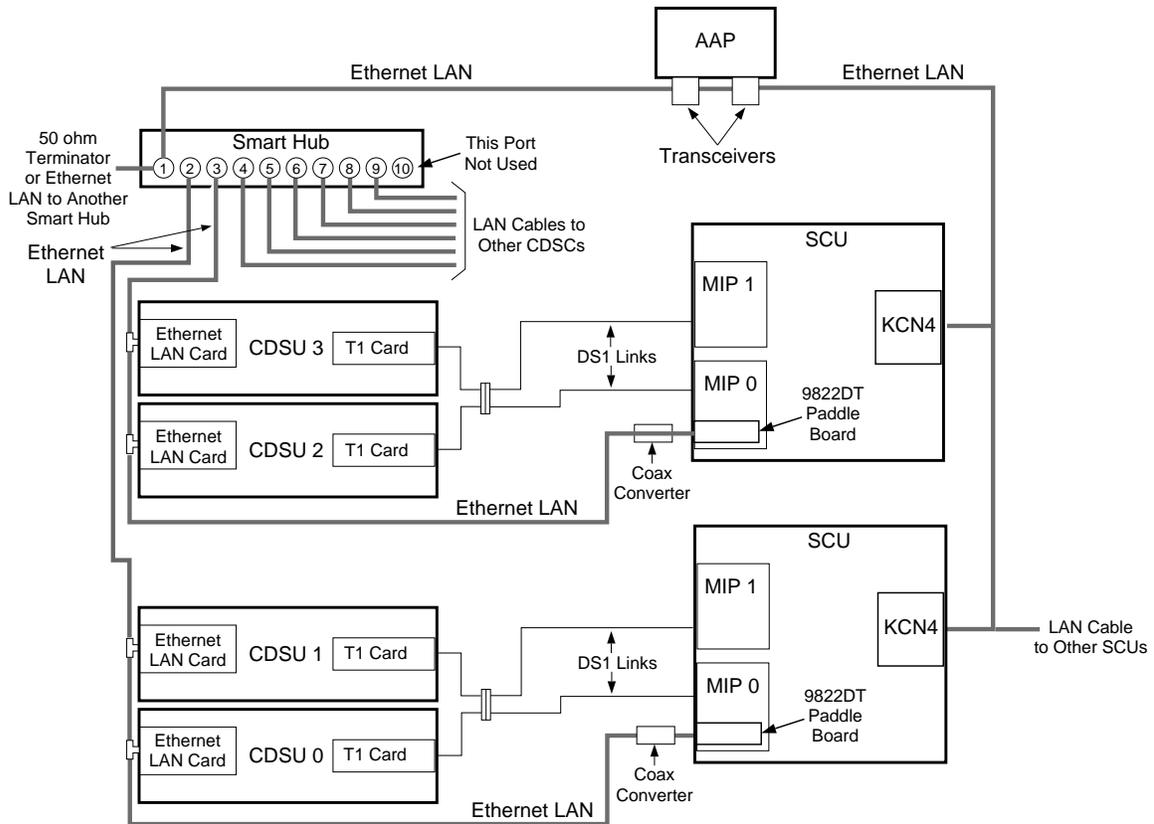

Figure 23. SCU/CDSU-II/AAP Connections
- SCU/CDSU-II/AAP Connections (Figure 23)